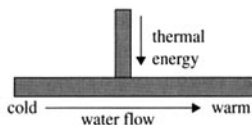

Figure 1.5.
- The thermal energy discarded by the power plant is removed by water (Figure 1.5). The temperature of the water must not increase by more than 5°C . Calculate the rate at which the water must flow.